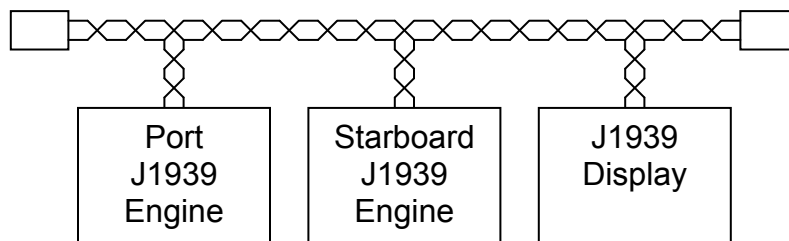
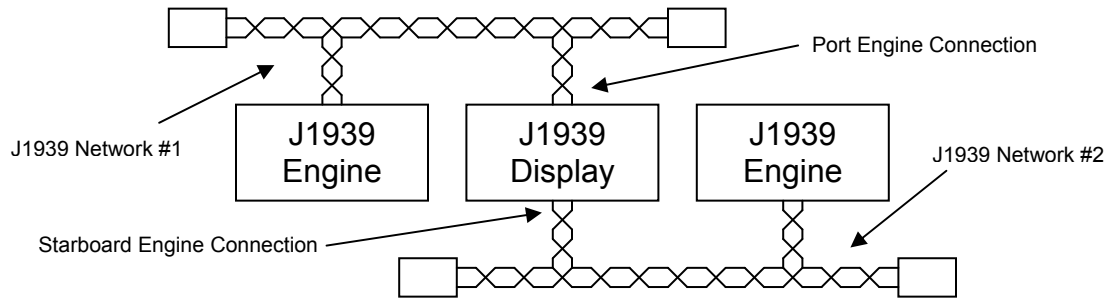

Figure 3 – Two Engine, Single J1939 Network
Figure 4 – Two Engines, Dual J1939 Networks
Another example showing a two engine, single J1939 network is given below in Figure 3.
The two engine, single J1939 network shown in Figure 3 requires the individual engines to use different source addresses so that the display can distinguish which data packets or messages are associated with which engine (J1939 and NMEA 2000[®] refer to the messages as Parameter Group Numbers or PGNs). Usually, but not always, the port engine is assigned to address 0 while the starboard engine is assigned to address 1 by the engine manufacturer.
Another example showing two engines with, dual J1939 networks is given below in Figure 4.
Unlike the single J1939 network shown in Figure 3, the dual J1939 network scheme shown in Figure 4 does not require the engines to have unique J1939 addresses. This is because the display can determine which messages or PGNs are from which engine by the physical connection on the display unit. In this scheme, each engine usually uses a source address of zero (0).
5. Two Engines/Gensets, Dual J1939 Networks (Figure 4)